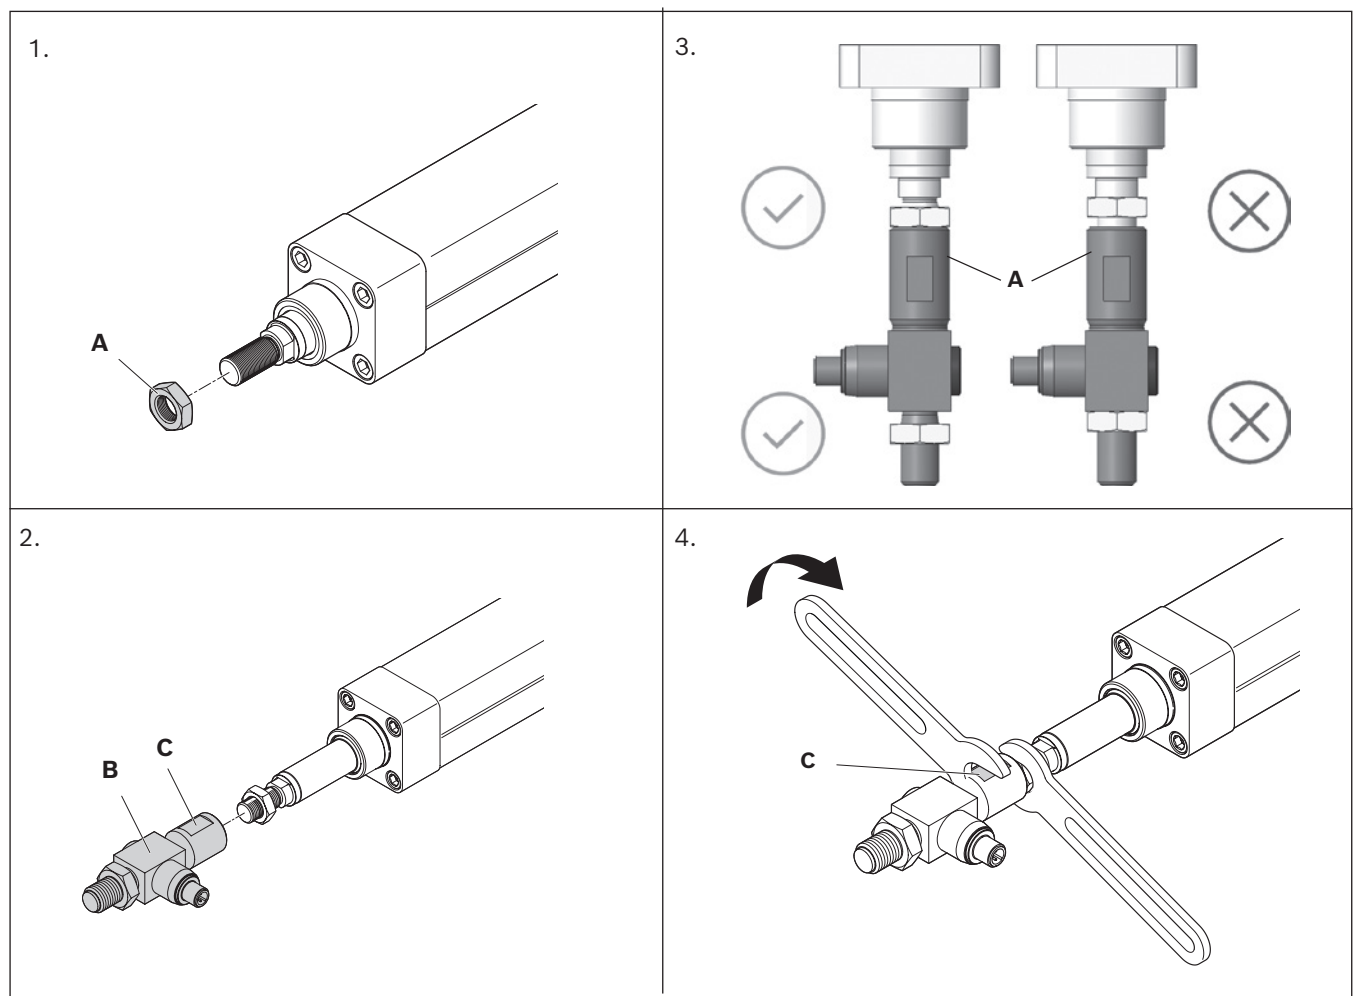

Fig. 6: Fastening the force sensor
- ▶ Fix the lock nut with distance to the sensor body ➡ Fig. 6; Picture 3.